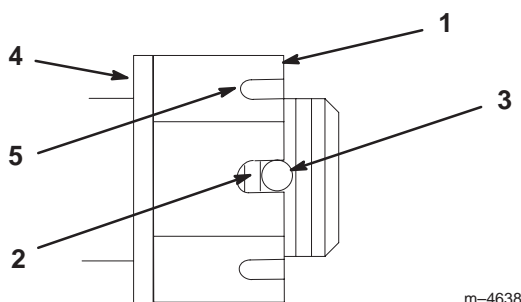

Figure 49
4. Torque the slotted nut to 125 ft-lb (170 N·m) (Fig. 49).
5. Check the distance from the bottom of the slot in the nut to the inside edge of the hole. Two threads or less should be showing (Fig. 49).
6. If more than two threads are showing, remove the nut and install a washer between the hub and nut (Fig. 49).
7. Torque the slotted nut to 125 ft-lb (170 N·m) (Fig. 49).
8. Tighten the nut until the next set of slots line up with the hole in the shaft (Fig. 49).